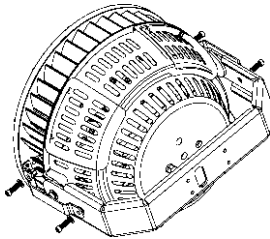

Figure 4
Step 2: Lock the angle fixing piece to the heat sink and bracket, then fix it with screws after adjusting to the required the angle (Figure 4);